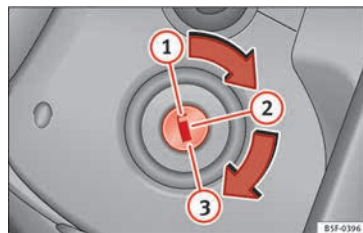

Fig. 168 Ignition key positions.
In this position » Fig. 168, the ignition and the engine are OFF and the steering may be locked.
- Turn the ignition key to position »» **Fig. 168**  2. The warning lamp  will light for engine pre-heating.
- Turn the ignition key to position » **Fig. 168**